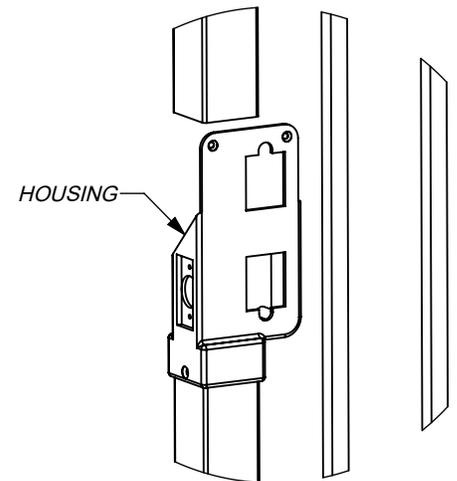
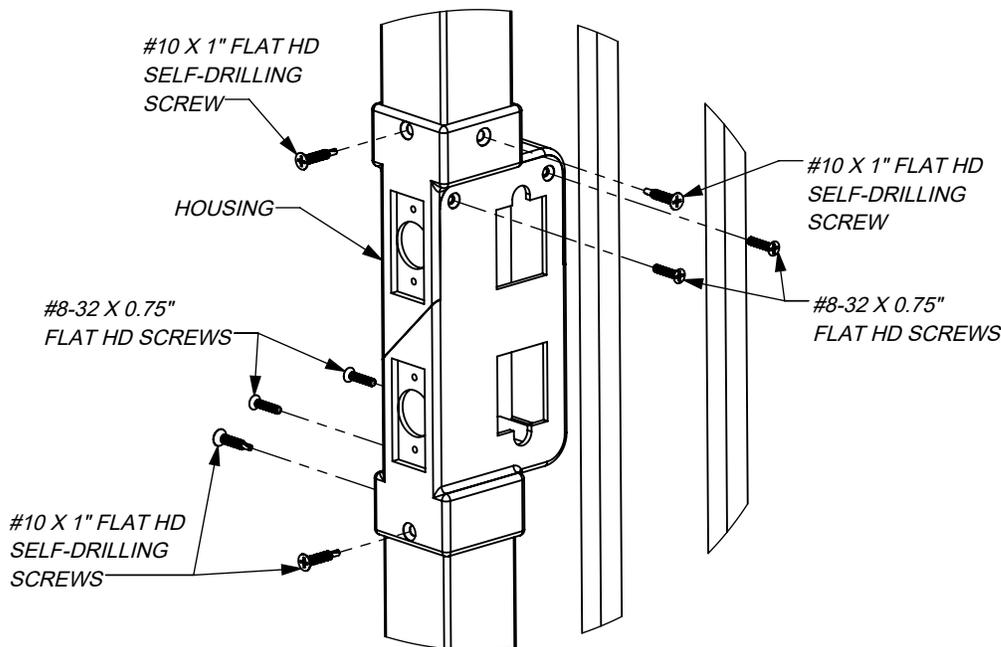

Figure 2
Figure 3
- 3) Place the first housing onto the lower gate frame (Figure 2). Place the second housing up onto the upper gate frame, align the holes of the two housings, and secure the housings together with the included four #8-32 x 0.75" flat head screws (Figure 3).
- 5) Check that the gate frame is still plumb and that the height of the centerline of the gate box is correct. Secure the top housing to the gate frame using the remaining two #10 x 1" flat head self-drilling screws (Figure 3).